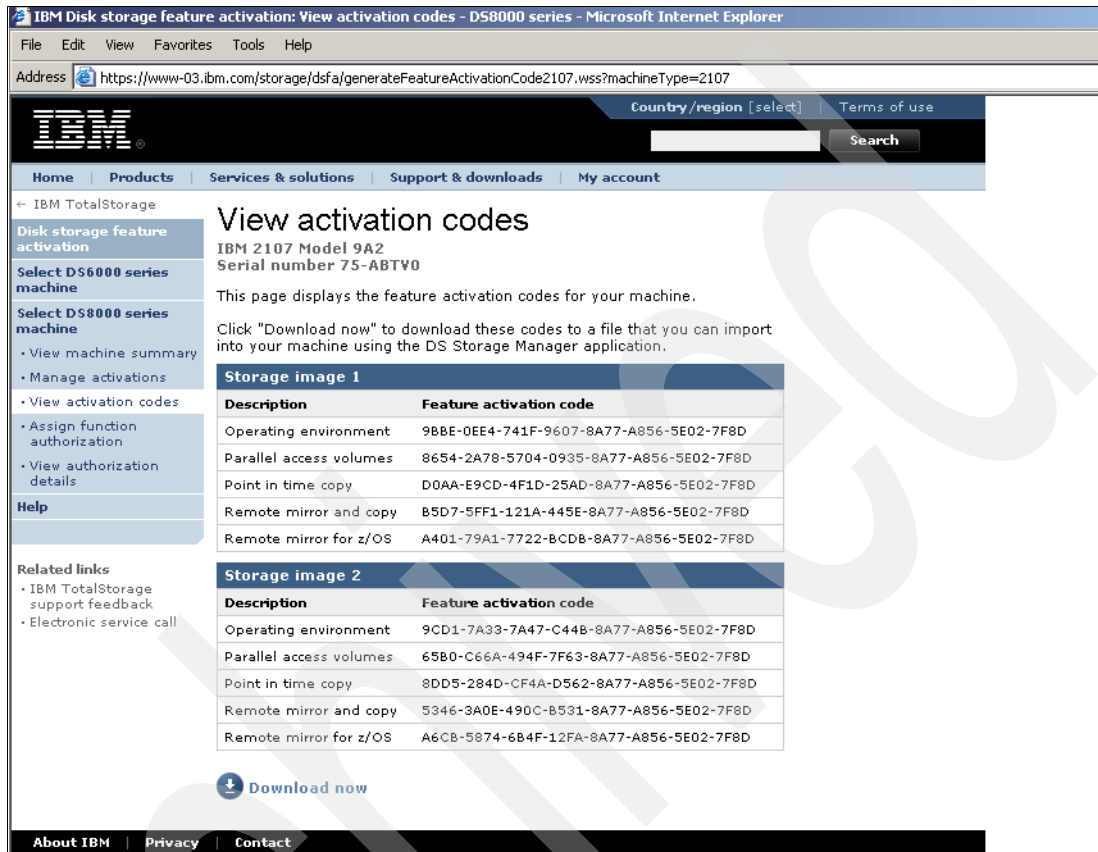

Figure 10-9 DSFA View activation codes window
- When you have entered the values, click **Submit**. The View activation codes window opens, showing the license activation codes for the storage images (Figure 10-9). Print the activation codes or click **Download** to save the activation codes in a file that you can later import in the DS8700. The file contains the activation codes for both storage images.